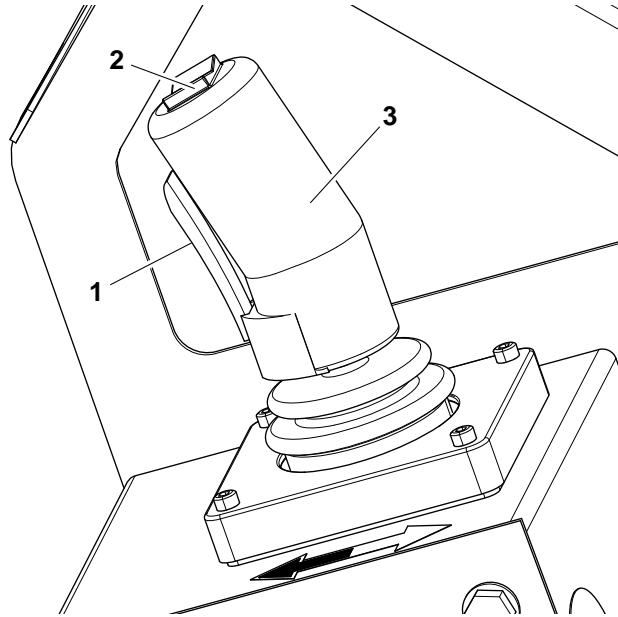

Figure 3-7. Platform Control Components
(Item 2 - Figure 3-7.)
(Item 1 and 3 - Figure 3-7.)
4. Squeeze and hold the trigger switch, and move the joystick back (platform up - white arrow direction) or move the joystick forward (platform down - black arrow direction) and hold until desired elevation is reached. Releasing the trigger switch or moving the joystick back to its center position will stop the function being operated. (Item 1 and 3 - Figure 3-7.)